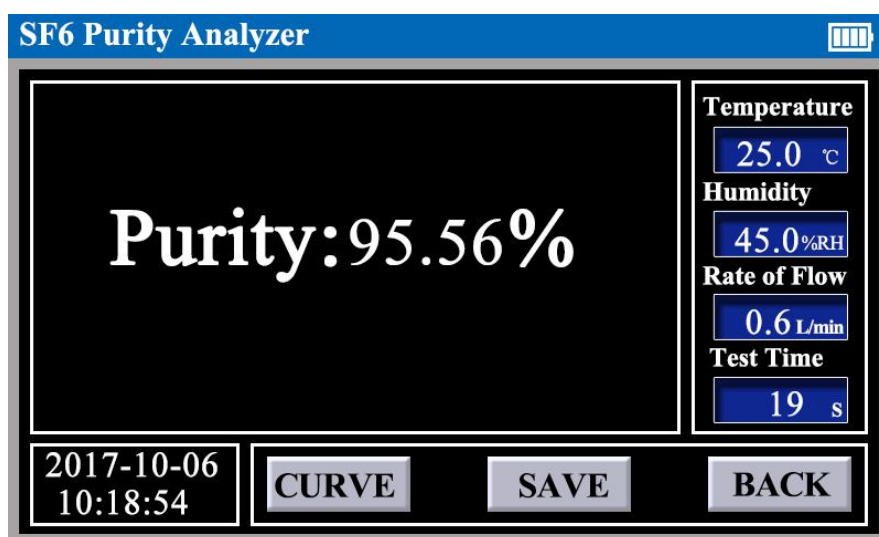

Figure 2
① Under the main interface, click on the "TEST", the instrument will enter the measurement interface and the instrument will show the measured SF6 purity value(percentage content), gas flow, ambient temperature, ambient humidity, and current system time. The interface is shown in Figure 2: